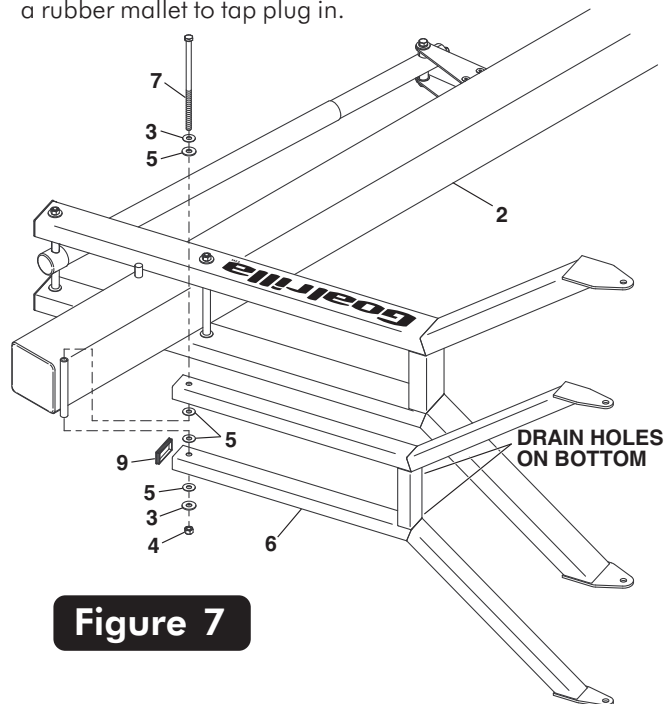

Figure 7
8. Attach Upper Arm (#6) to Pole (#2), as shown in **Figure 7**, using a bolt (#7), two flat washers (#3), four plastic washers (#5) and hex nut (#4).